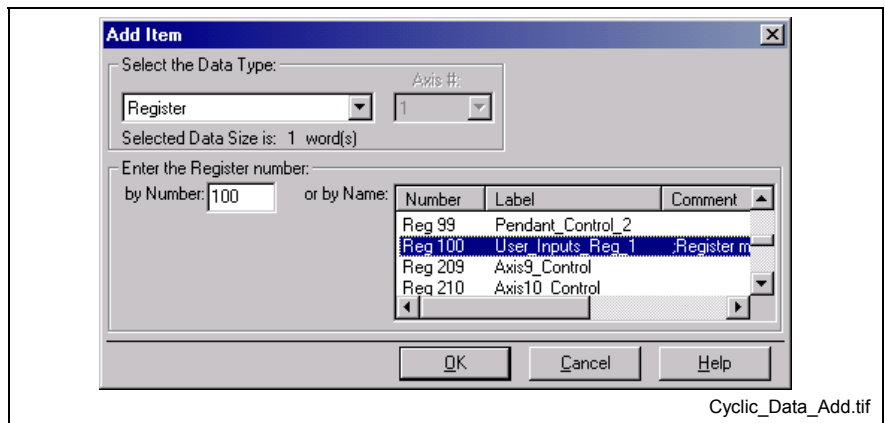

Fig. 7-104: Add Item to Cyclic Data
2. Click **Add**. The window in Fig. 7-104 is displayed. Select the Data Type (for example, Register).